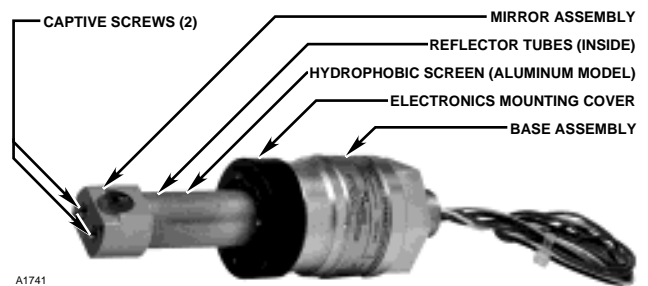

Figure 11—IR Module and Base Assemblies
2. Unscrew and remove the electronics mounting cover by rotating it counter-clockwise. See Figure 11.
- Screw the electronics mounting cover clockwise onto the base assembly as shown in Figure 11.